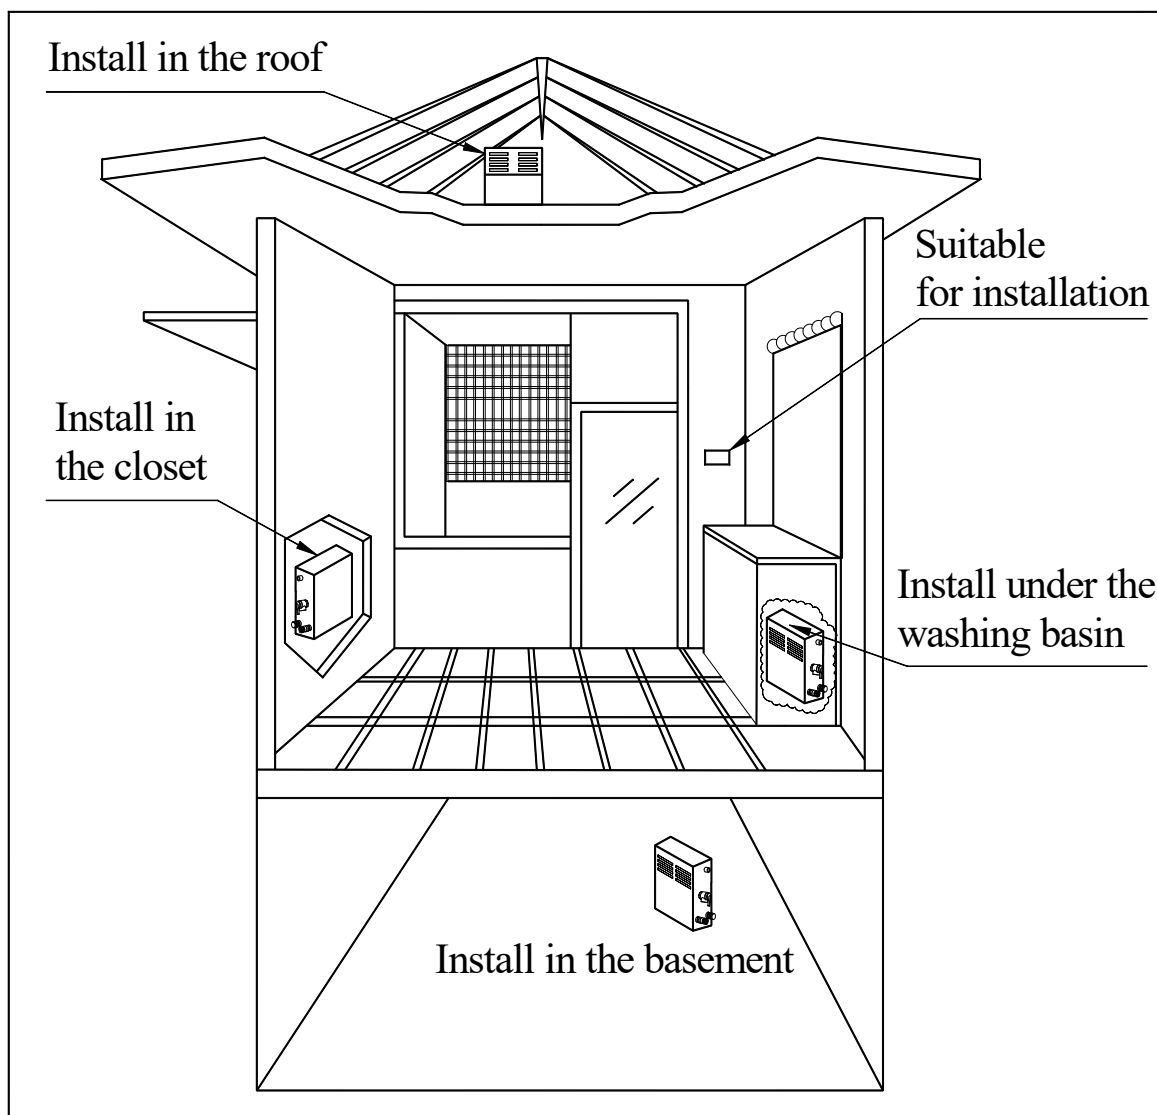

Figure 5 Places to install steam generator
- The generator should be installed in a dry and well-ventilated place. It can be installed either on the wall or on the ground, but must be well fixed. Install the generator to steam room as close as possible, such as in the closet, under the washing basin or in the basement. (Refer to figure 5).